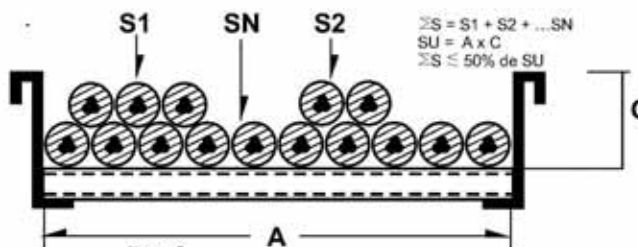

Figure 2
It is recommended that the sum of the cross-sectional areas of all the cables (S), do not cover more than 50% of the tray cross-sectional area. See Figure 2.